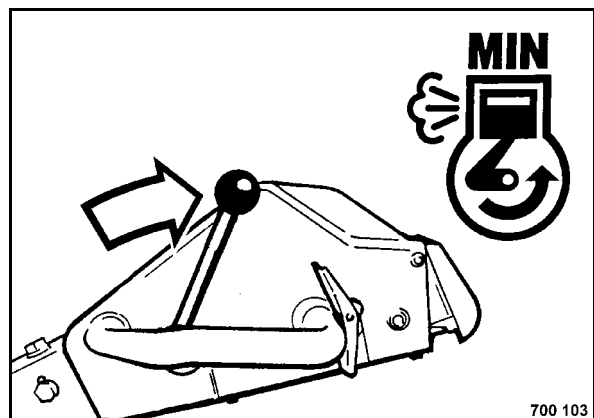

Fig. 36
- Set the throttle lever (Fig. 36) to position "MIN".